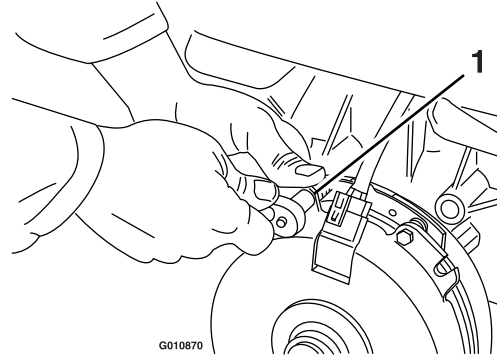

Figure 73
- A. Loosen both brake mounting bolts 1/2 to 1 full turn as shown in Figure 73.